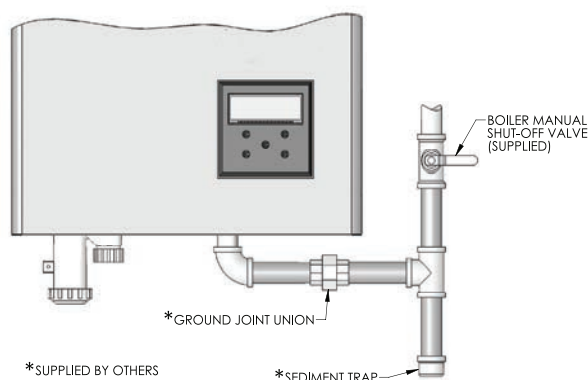

Figure 5.1: Suggested Near Boiler Gas Piping
2. Install a sediment trap as shown in Figure 5.1. Be sure to allow clearance from the floor or other horizontal surface for removal of the pipe cap.
4. Install a service valve as shown in Figure 5.1 to allow the gas supply to be interrupted for service.
7. Figure 5.1 shows the gas shutoff valve for the Series PBC™ boiler. This valve is to be used in addition to the gas service valve shown upstream of the sediment trap.